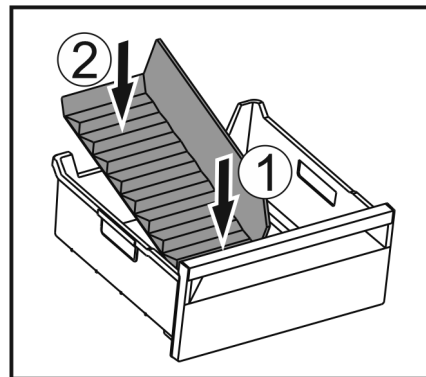

Fig. 156
- Insert the front part of the ice compartment divider. Fig. 156 (1)
- Lower the rear part of the ice compartment divider to the drawer bottom. Fig. 156 (2)